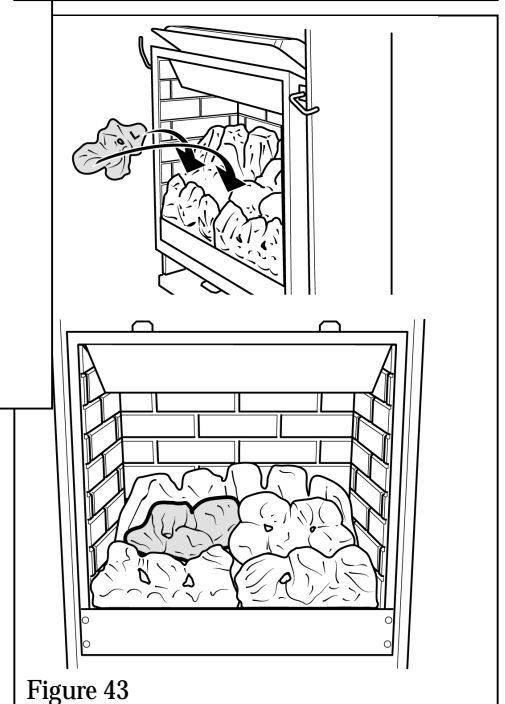

Figure 43
5. The centre left coal has letter "L" embossed underneath. Place this coal behind the front left coal. See figure 43.